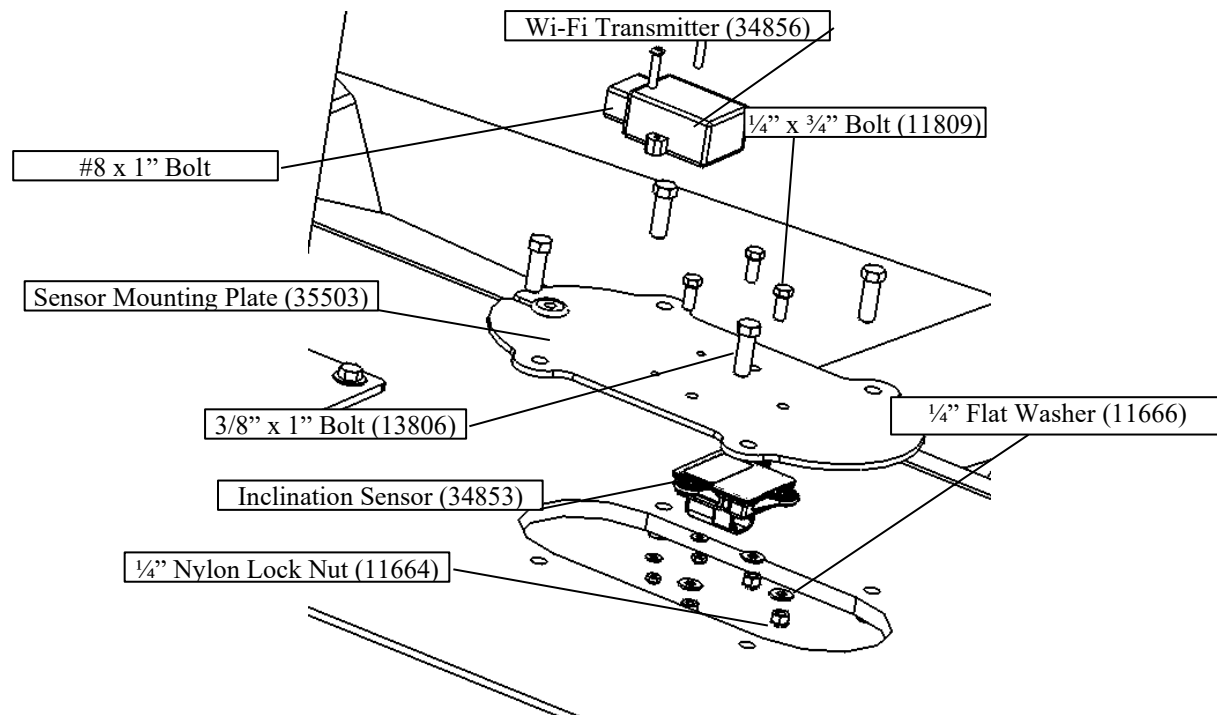

Figure 3.41 Middle Blade Sensor plate
- c) To install the middle blade sensor plate, bolt Wi-Fi transmitter (34856) and middle blade inclination sensor (34856) onto the sensor mounting plate (35503) as shown in figure 3.41. Connect to sensor wire harness before bolting down plate. **Note: Maximum torque of 30 in-lbs on 1/4" bolts that mount sensors to the mounting plate.**